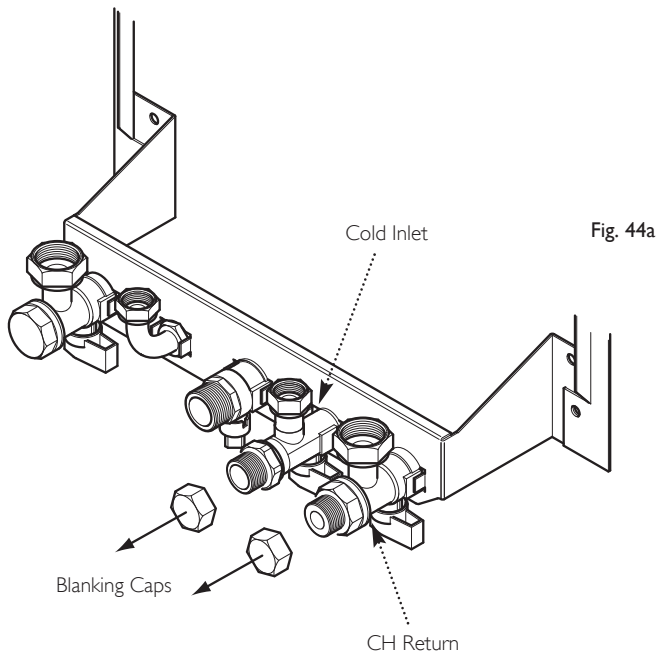

Fig. 44a
5. Remove the blanking caps from the mains cold water inlet and central heating return isolation taps (Fig. 44a). Connect the valves to the taps, ensuring that the fibre washers supplied are used on these joints.